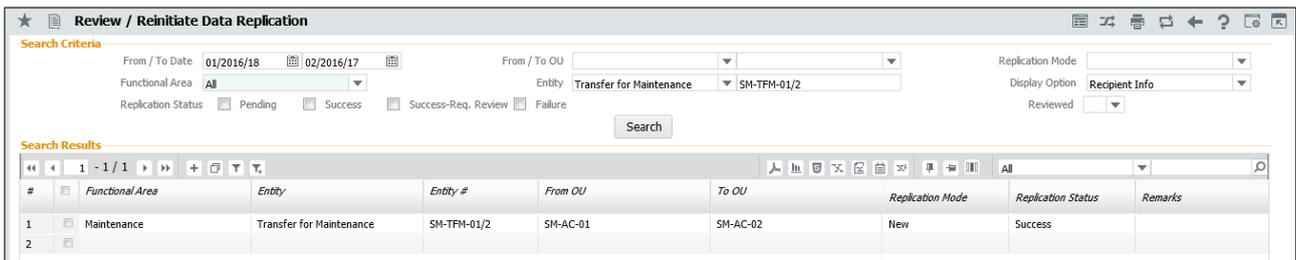

Figure 4.6 Reviewing status of aircraft data transfer
10. Once the execution document is released, transfer of Aircraft Data is initiated from operating unit (OU2) to operating unit (OU3). The status of the transfer can be viewed in **Review / Reinitiate Data Replication** screen. See Figure 4.6. Refer 'Data Replication-Chapter3' for more details on reviewing / reinitiating data replication.